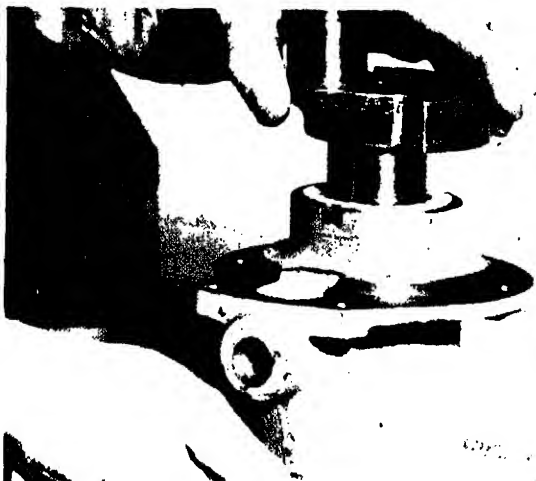

Fig. 12-2-28. Install crankshaft
6. Check crankshaft end clearance. Fig. 12-2-28. Clearance must be .004/.009 inch. (It is necessary to manually deflect [depress] waviness from thrust washer to make end clearance tolerance check).